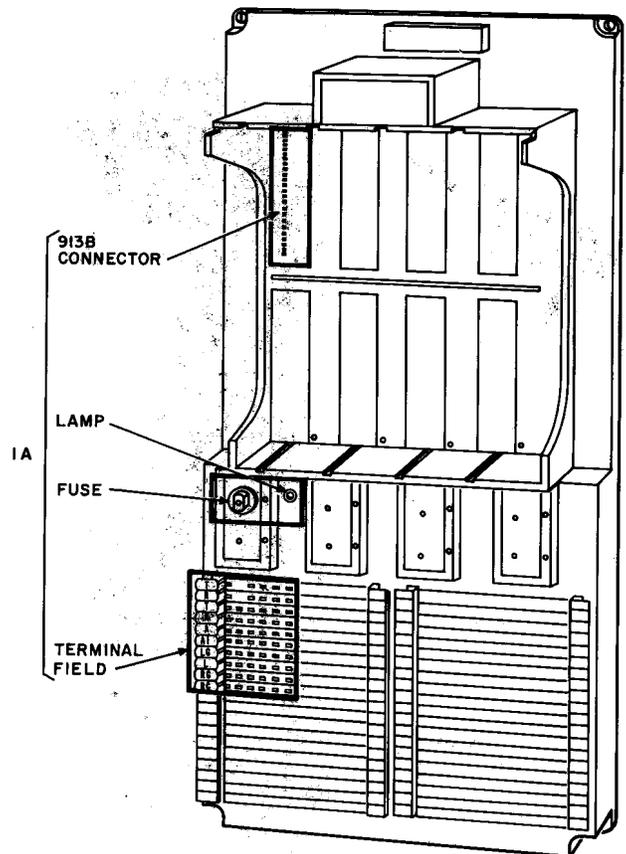

Fig. 2—620A (MD) or 620A2 Modular Panel, Typical Connector, Fuse, Lamp, and Terminal Field Relationship
B. 620A (MD) Modular Panel
- Two terminal fields (RED) divided into quadrants and wired to similarly positioned connectors (Fig. 2) which offer KTU services independent of each other.